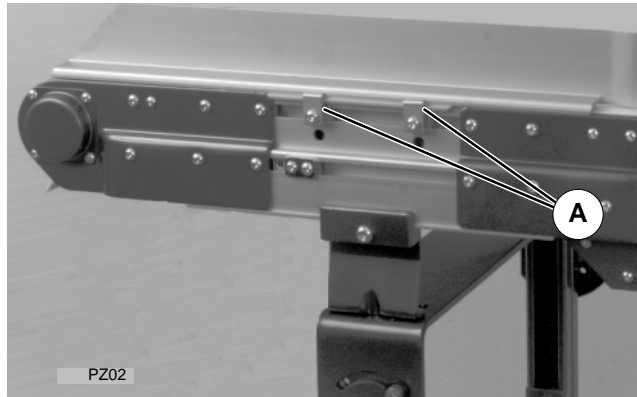

Figure 3: LPZ Standard Cleated Belt Conveyor Guide Attachment Detail
2. **On Standard Cleated belt conveyors only**, note the position, direction and anchoring of all guiding sections and temporarily detach them from each conveyor section by loosening the guide clamps (A of Figure 3).